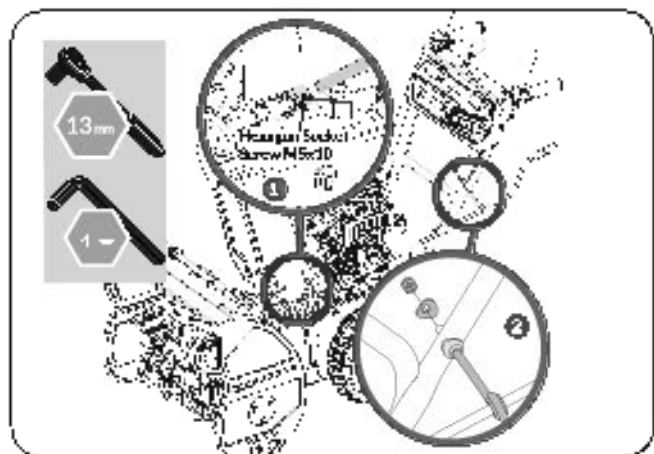

Figure 5a
- Loosen the hexagon socket screw M5x10 on the universal joint several circles, then insert the end of the directional chute control lever into the universal joint and tighten with allen wrench, (See **Figure 5a** #1)
- Align the side brace from Step 1 with the upper hole on the left handle, and slide the brace bolt through the hole (See **Figure 5a** #2). Secure to the handle with a curved washer and then finger tighten the nut to secure to the handle bar. (See **Figure 5a** #2)
- Be sure to tighten the nut on the side brace that secures the directional chute control bar to the handle bar. (See **Figure 5a** #2)